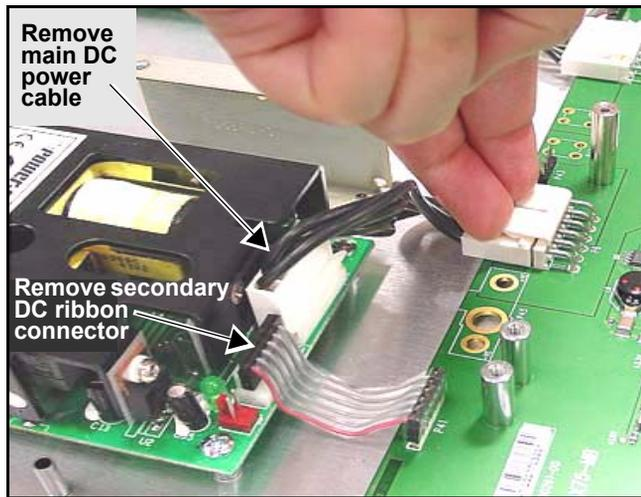

Figure C-43. Removing the DC and Ribbon Cables
3. Remove the main DC power cable and secondary DC ribbon cable that connect the power supply. (See Figure C-43.)